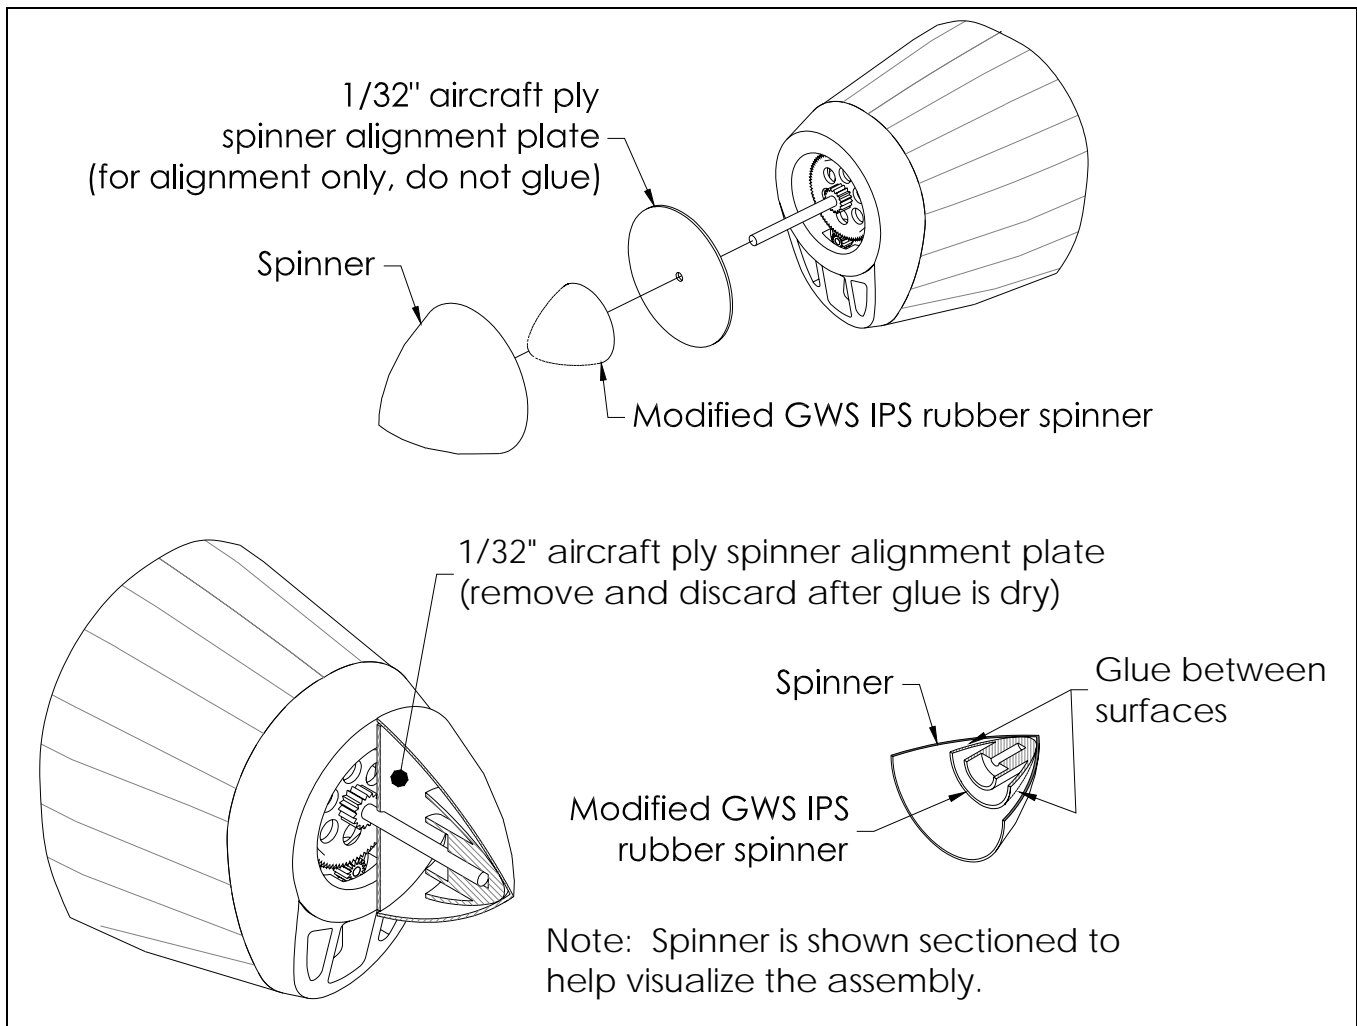

Figure 40
- ❑ Using the spinner alignment plate to support the back of the spinner, glue the spinner onto the modified IPS rubber spinner with 5-minute epoxy as illustrated in Figure 40.